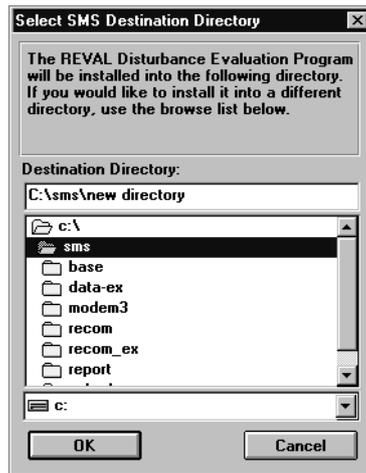

Fig. 7 The set new directory dialogue box.
- 1 Select unit, e.g. C:, see Fig. 7.